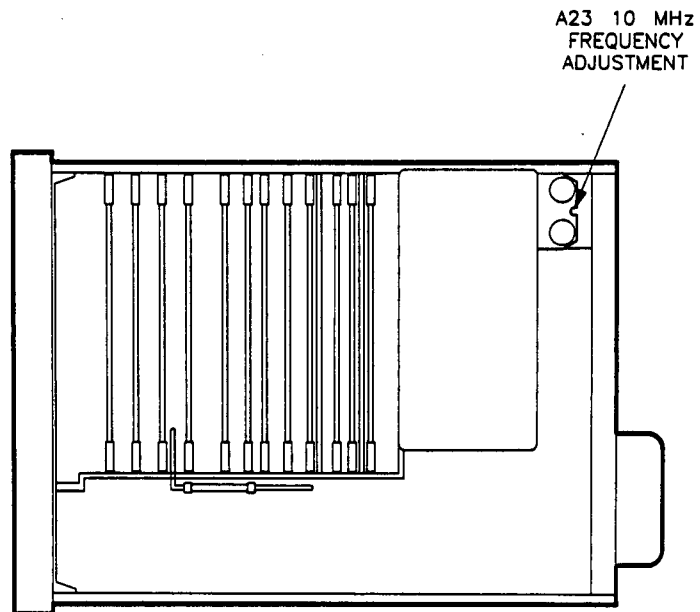

Figure 3-2. 10 MHz Standard Adjustment Location
- Using a non-metallic tool, adjust the A23 10 MHz standard (see figure 3-2) for minimum horizontal movement of the oscilloscope waveform.